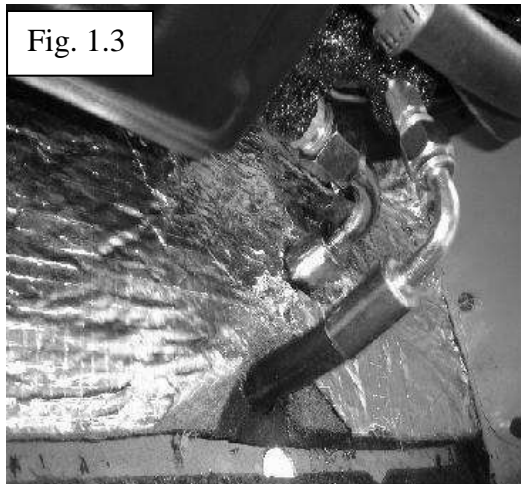

Fig. 1.3
- Mount the unit in its mounting location. Take the # 6 (5/16" hose) and the # 10 (1/2" hose) and push a 90 degree fitting into each. Attach the fittings (finger tight) to the evaporator. If the hoses will run straight back to the firewall without any kinks make a small mark where the hose meets the firewall, Figure 1.3. That will be the location for the grommet. If the hose is kinked or tight try a straight fitting on the evaporator connection. We do carry many fittings if a 45 or 180 degree is needed please contact us.